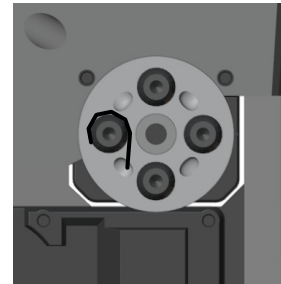

Figure 5.67: Tendon secured under the bolt
6. Pull the extension end of the tendon through the bottom hole (until the finger is straight) and secure it to the bottom bolt with a clockwise rotation around it (figure 5.67). While holding the tendon taut with the assembly pliers, firmly tighten the bolt to lock the tendon (figure 5.38). Figure 5.63 shows the completed operation.